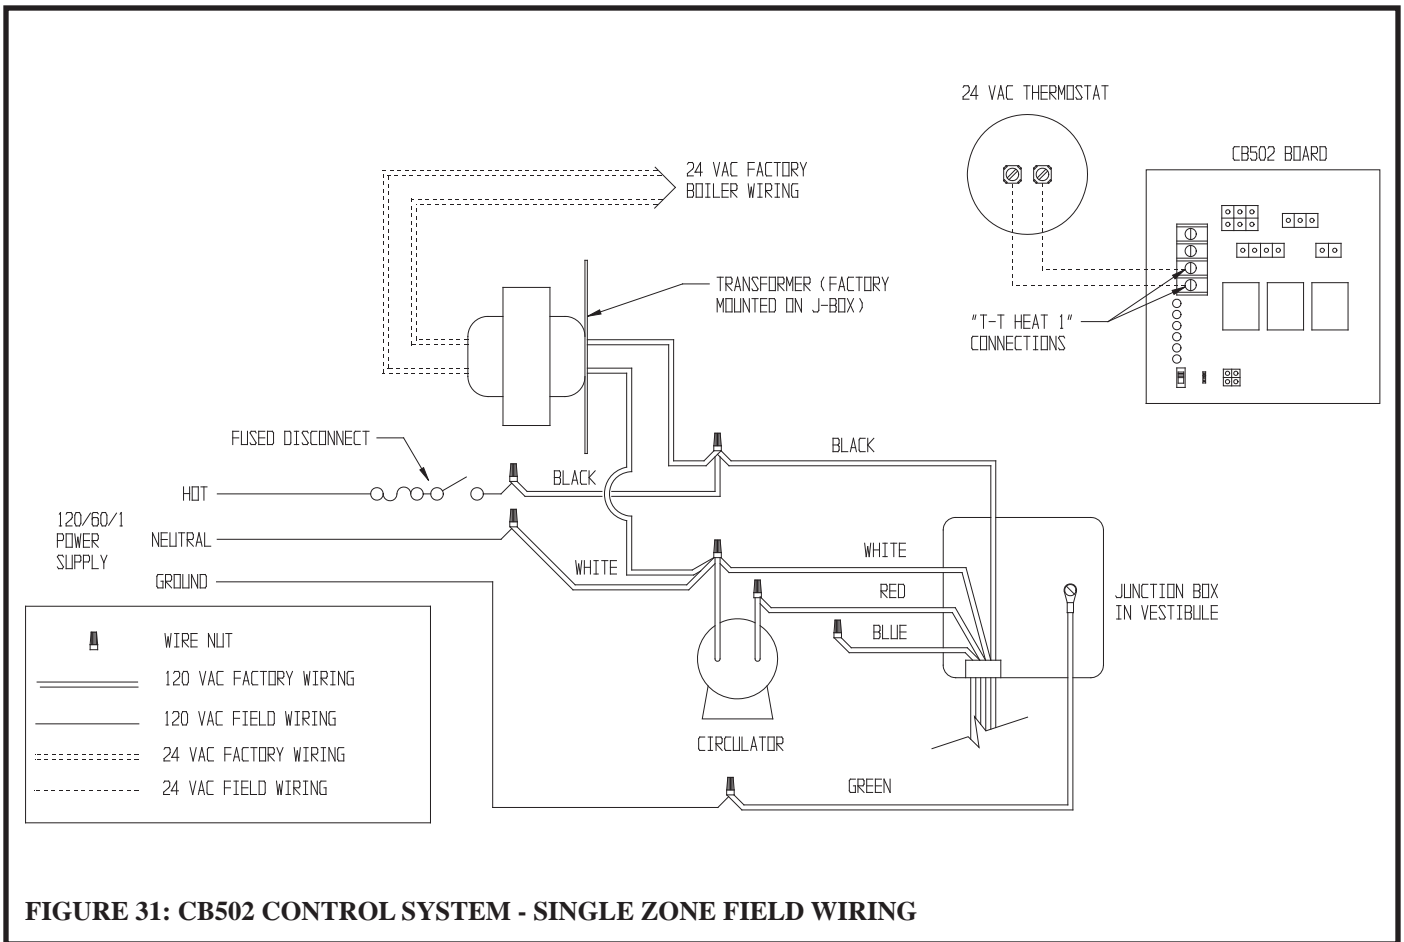

FIGURE 31: CB502 CONTROL SYSTEM - SINGLE ZONE FIELD WIRING
- 1) **Line Voltage (120 VAC) Connections (Fig 31)** – The line voltage connections are located in the junction box under the transformer on the right side of the vestibule:
- 3) **Low Voltage (24 VAC) Connections (Fig 31)** – These connections are screw terminals located on the front edge of the relay board: